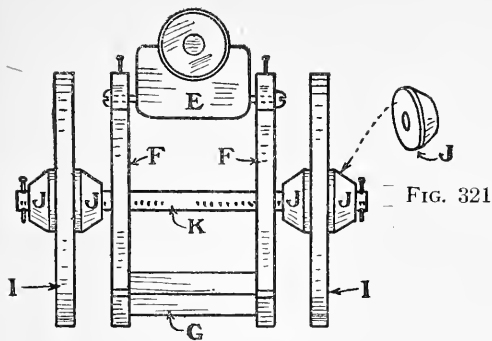
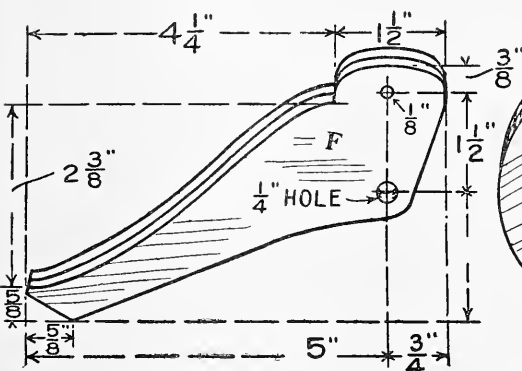

FIG. 316
FIG. 318
The Gun-Carriage. Figure 316 shows a *rear elevation* of the mounted gun, and Fig. 317 shows a detail of the *carriage* framework. The pair of carriages *F* may be prepared in one piece, cut out of a piece of wood $\frac{5}{8}$ inch thick, then sawed in half. Figure 318 shows a dimensioned pattern for marking out the piece. The $\frac{1}{4}$ -inch hole is for the wheel axle; the $\frac{1}{8}$ -inch hole is for the *trunnion* screws on which the gun is to be mounted. Separator block *G* (Fig. 317) braces the *trail* of the carriage. Make it of the size shown in Fig. 319. Before fastening carriages *F* to *G*,
- FIG. 316.—Rear Elevation of Mounted Gun
Mounting the Gun. Because of the thinness of the tube of the gun, the screw trunnions cannot be driven into it. The gun must be mounted upon a *bed block* (*E*, Figs. 316 and 323), and the trunnions screwed into the block's sides. The upper side of block *E* must be curved the same as the surface of the gun. To get the right curve, bore a 1-inch hole through a block, then cut this block through at the center of the hole, and trim it up to the dimensions shown in the diagram of Fig. 323. Glue the gun to the bed block, and when the glue has set drive a small screw through each carriage into it.